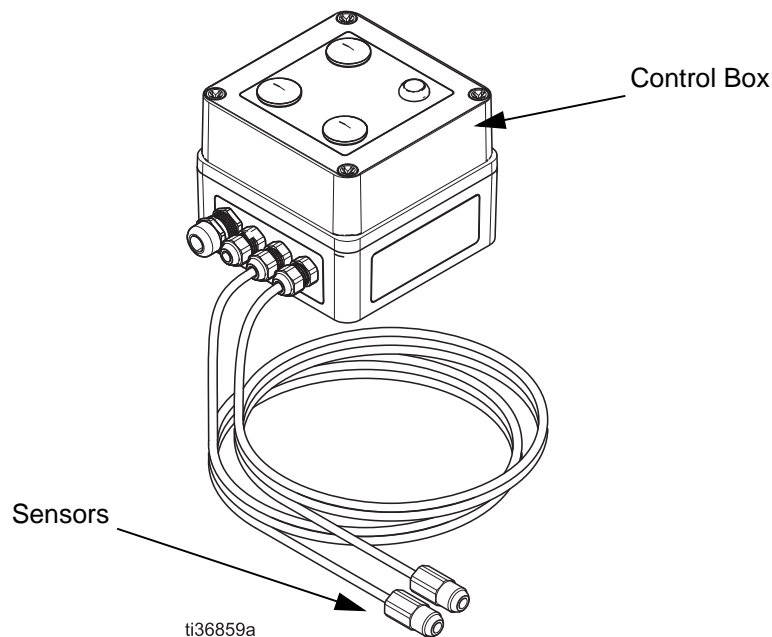
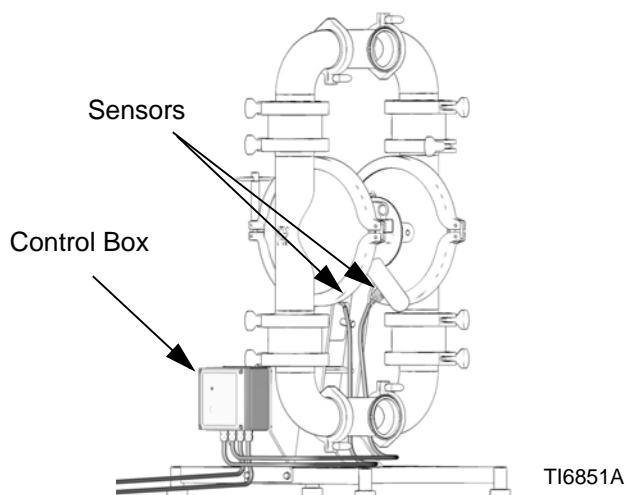

FIG. 1. Typical Leak Detection System
FIG. 5. Typical Control Box and Sensor Installation
The sensors are mounted on the pump to detect liquid on the air side of each diaphragm. See FIG. 1 and FIG. 5.
5. Screw the sensors into the pump. Use thread sealant, as needed. See FIG. 5.